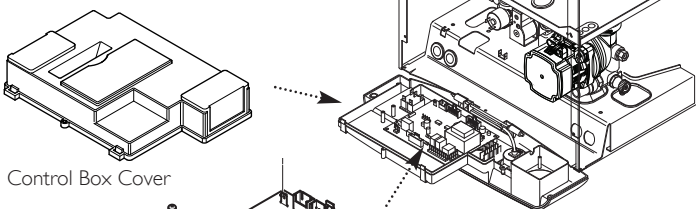

Fig. 62
### 13.18 P.C.B. (Fig. 62)
2. Completely undo the screws securing the control box cover and release the cover retaining barbs from their slots. Disengage the rear of the cover from the control box hinge pin (Fig. 62).